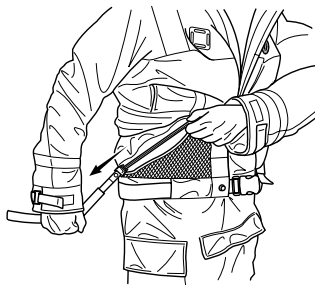

FIGURE 15
- b) Grasping the open end of the waterproof zipper with your left hand, begin pulling the zipper slider with your right hand, continuing to close the waterproof zipper as far as you can (see fig. 15).